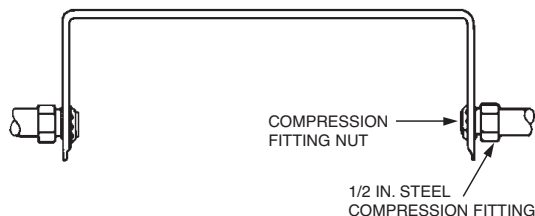

FIGURE 15
1. Secure the conduit to the detector bracket using the two 1/2 in. steel compression fittings on the series detector bracket or the single 1/2 in. steel compression fitting on the terminal detector bracket. See Figure 15.